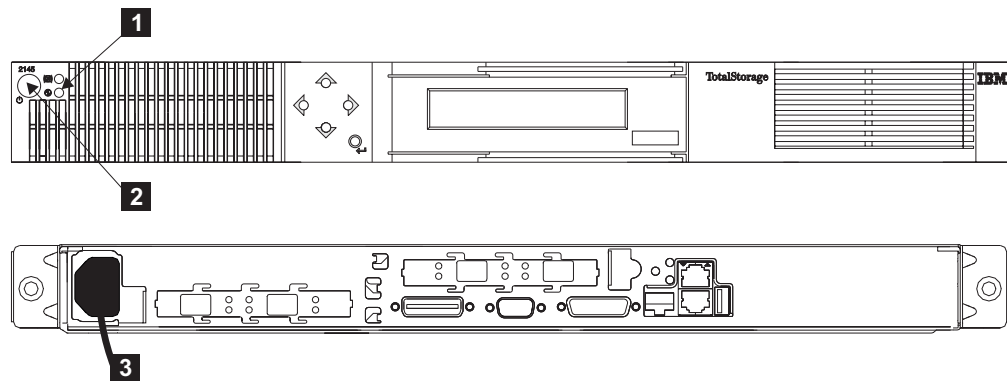

Figure 82. Removing the power cable from a SAN Volume Controller
1. Check the SAN Volume Controller power light. If the light is on **1**, go to step 2. If the light is either off or blinking, power has been removed from the SAN Volume Controller; go to step 4. See Figure 82.